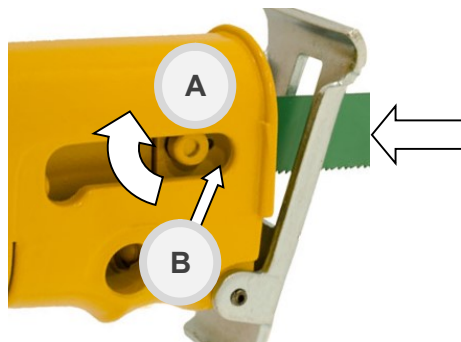

Fig. 4
- securely tighten the socket head screw item 1 (see fig. 4).